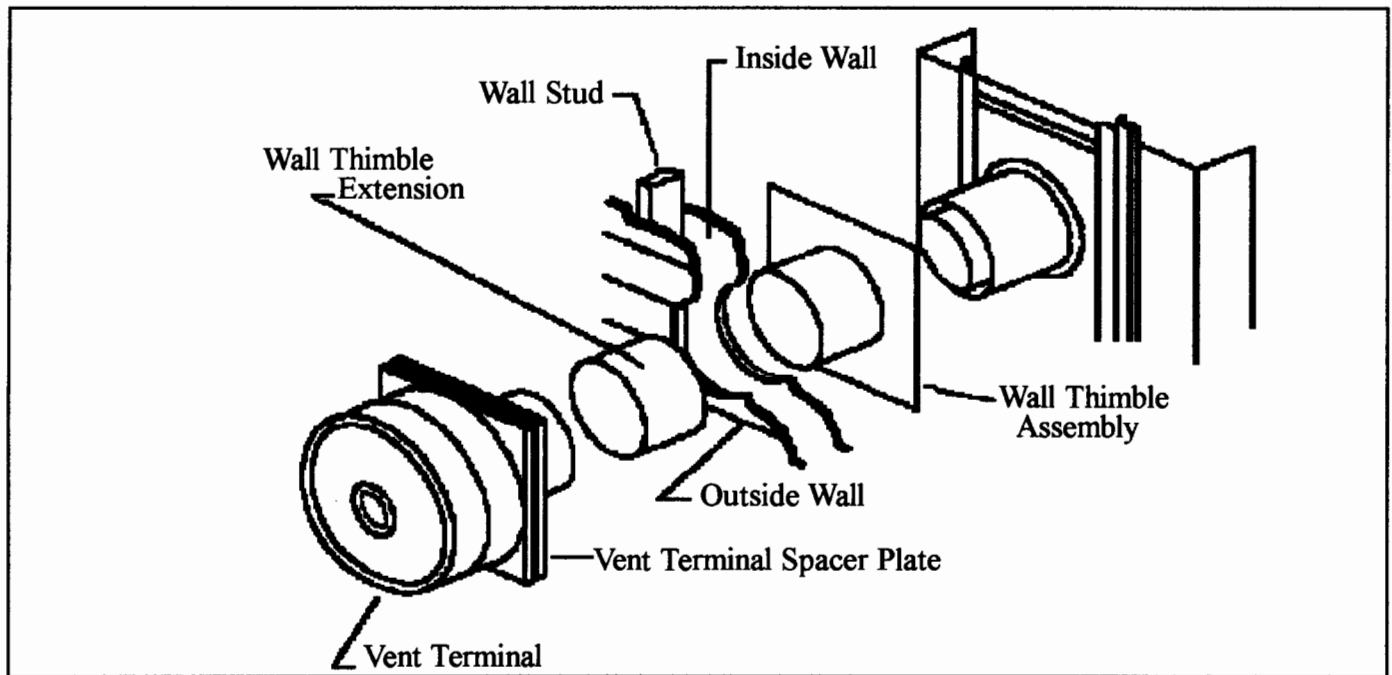

FIGURE 7
Use only the exhaust tube, air intake tube, wall thimble extension, and vent terminal provided with furnace. Do not attempt to lengthen the exhaust or air intake tubes, this could cause an imbalance in the furnace resulting in poor performance and pilot outage, see Figure 6. Extend the telescoping wall thimble extension (surrounding the wall thimble assembly) to approximately 9 inches. Center the wall thimble assembly in the 9 inch opening and attach to inside wall using eight (8) screws. The wall thimble extension should extend through the opening and be adjusted so end of wall thimble extension is even with outside wall. Install furnace flush to wall by sliding exhaust tube and air intake tube through the wall thimble assembly. Secure the furnace to the wall with screws through each of the four holes in the mounting brackets located on the back of the furnace. These holes are spaced so as to allow the screws to enter into studs that are on 16 inch centers. On certain types of wall, anchors (not provided) may be required. Slide the vent terminal onto the exhaust tube and the air intake tube. Secure vent terminal and vent terminal spacer plate to wall providing a slight downward slope to the vent tubes. This will prevent water from entering. Anchors (not provided) may be required. Caulk around vent terminal spacer plate with putty provided. See Figure 7. NOTE: Some framing may be necessary to provide a flat surface for the vent terminal spacer plate to butt against, so rain cannot enter through cut out.
to 15” wall use Vent Kit No. VK1525/9-15-B. Do not attempt to lengthen the exhaust tube, air intake tube, or wall thimble extension provided with furnace or the VK1525/9-15-B Vent Kit. Disconnect the air intake tube, and the exhaust tube from the back of the furnace and discard. See Figure 6. Replace with exhaust tube and air intake tube from Kit No. VK1525/9-15-B. Discard the 5” telescoping wall thimble extension that surrounds the wall thimble assembly. Center the wall thimble assembly in the 9” opening and attach to inside wall using eight (8) screws. Install furnace flush to wall by sliding exhaust tube and air intake tube through the wall thimble assembly. Secure the furnace to the wall with screws through each of the four holes in the mounting brackets located on the back of the furnace. These holes are spaced so as to allow the screws to enter into studs that are on 16-inch centers. On certain types of wall, anchors (not provided) may be required. From outside the building install the thick wall thimble extension, Part No. 43835, supplied in Vent Kit No. VK1525/9-15-B by sliding it through the cut out and over the wall thimble assembly. The wall thimble extension should be even with the outside wall (some trimming may be necessary). Slide the vent terminal onto the exhaust tube and the air intake tube. Secure vent terminal and vent terminal spacer plate to wall providing a slight downward slope to the vent tubes. This will prevent water from entering. Anchors (not provided) may be required. Caulk around the vent terminal spacer plate with putty provided. See Figure 7. NOTE: Some framing may be necessary to provide a flat surface for the vent terminal spacer plate to butt against, so rain cannot enter through cut out.
15” to 24” wall use only Vent Kit No. VK1525/15-24-B. Do not attempt to lengthen the exhaust tube, air intake tube, or wall thimble extension provided with furnace. The VK1525/15-24-B Vent Kit has a one inch restrictor in the exhaust tube which is necessary for proper and safe operation of this furnace. Do not use any other vent kit. Disconnect the air intake tube and the exhaust tube from the back of the furnace and discard, see Figure 6. Install the exhaust tube and air intake tube from Vent Kit No. VK1525/15-24-B. Discard the 5” telescoping wall thimble extension that surrounds the wall thimble assembly. Center the wall thimble assembly in the 9” opening and attach to inside wall using eight (8) screws. Install furnace flush to wall by sliding exhaust tube and air intake tube through the wall thimble assembly. Secure the furnace to the wall with screws through each of the four holes in the mounting brackets located on the back of the furnace. These holes are spaced so as to allow the screws to enter into studs that are on 16-inch centers. On certain types of walls, anchors (not provided) may be required. From outside the building install the wall thimble extension, Part No. 43730, supplied in Vent Kit No. VK1525/15-24-B by sliding it through the cut out and over the wall thimble extension. For walls 15” to 19” the wall thimble extension, air intake tube, and the exhaust tube must be trimmed even with the outside wall. Slide the vent terminal onto the exhaust tube and into the air intake tube. Secure vent terminal and vent terminal spacer plate to wall providing a slight downward slope to the vent tubes. This will prevent water from entering. Anchors (not provided) may be required. Caulk around the vent terminal spacer plate with putty provided, see Figure 7. NOTE: Some framing may be necessary to provide a flat surface for the vent terminal spacer plate to butt against, so rain cannot enter through the cut out.
Kit No. VK33/9-15-B. Do not attempt to lengthen the exhaust tube, air intake tube, or wall thimble extension provided with furnace or the VK33/9-15-B Vent Kit. Disconnect the air intake tube, and the exhaust tube from the back of the furnace and discard. See Figure 6. Replace with exhaust tube and air intake tube from Kit No. VK33/9-15-B. Discard the 5” telescoping wall thimble extension that surrounds the wall thimble assembly. Center the wall thimble assembly in the 9” opening and attach to inside wall using eight (8) screws. Install furnace flush to wall by sliding exhaust tube and air intake tube through the wall thimble assembly. Secure the furnace to the wall with screws through each of the four holes in the mounting brackets located on the back of the furnace. These holes are spaced so as to allow the screws to enter into studs that are on 16-inch centers. On certain types of wall, anchors (not provided) may be required. From outside the building install the thick wall thimble extension, Part No. 43835, supplied in Vent Kit No. VK33/9-15-B by sliding it through the cut out and over the wall thimble assembly. The wall thimble extension should be even with the outside wall (some trimming may be necessary). Slide the vent terminal onto the exhaust tube and the air intake tube. Secure vent terminal and vent terminal spacer plate to wall providing a slight downward slope to the vent tubes. This will prevent water from entering. Anchors (not provided) may be required. Caulk around the vent terminal spacer plate with putty provided. See Figure 7. NOTE: Some framing may be necessary to provide a flat surface for the vent terminal spacer plate to butt against, so rain cannot enter through cut out.